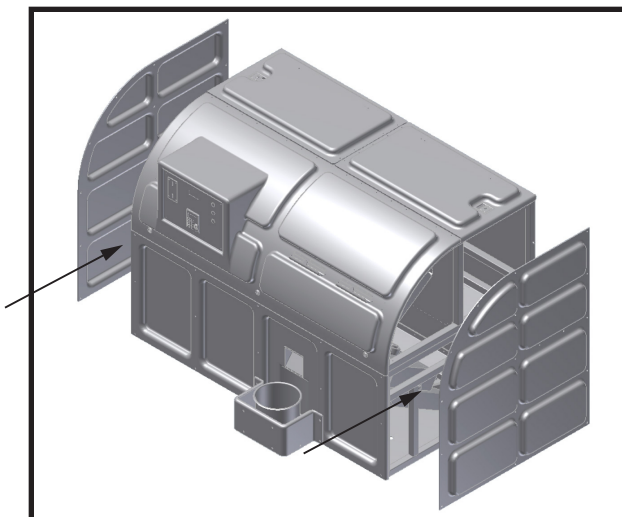

Figure 2.3
- b) Remove both side panels from MAGNUM™ BALL DISPENSER (see figure 2.3).